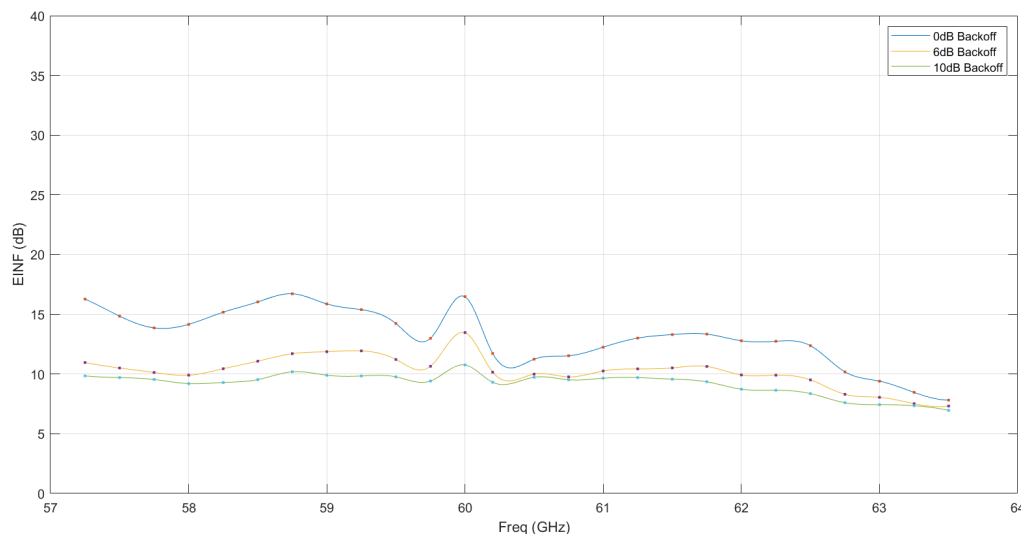

Figure 2-2. Average EINF With Single TX on Across Frequencies
These effects across transmit and receive pairs can be combined to show a total effect of all transmit and receive antennas across RF frequency. Figure 2-2 shows the noise figure averaged across different TX-RX combinations.
- Choosing start and stop frequencies (bandwidth) of the FMCW chirp can help reduce coupling and lower the noise figure. As Figure 2-2 shows, the 61 to 63.5GHz band has lower coupling than the 57 to 61GHz band. Designing a chirp to utilize the 61 to 63.5GHz portion of the frequency band can help lower the noise figure. Local regulations and other considerations can drive frequency choice of the end application, but the previous graphs can be used for expected noise figure in different frequency bands.